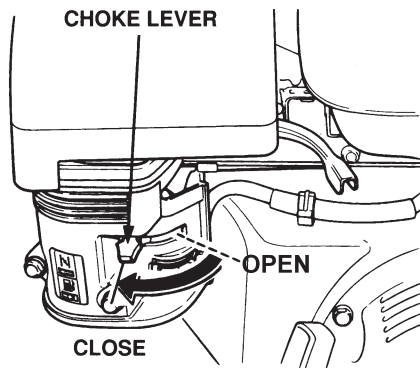

Figure 24. Engine Choke Lever
- Place the **Choke Lever** (Figure 24) in the "CLOSED" position.
- If the engine has started, slowly return the choke lever (Figure 24) to the **OPEN** position. If the engine has not started repeat steps 1 through 5.